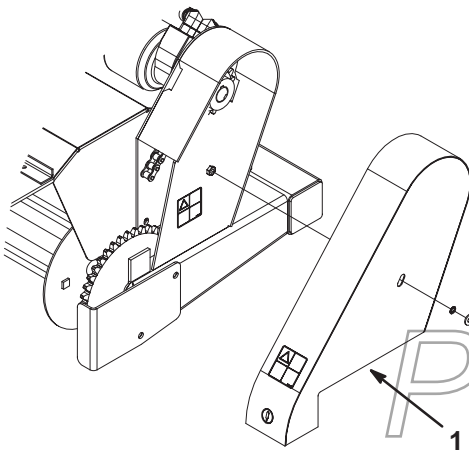

Figure 15
13. Install chain cover onto frame and secure with retainer knob, flat washer and retaining ring (Fig. 15).